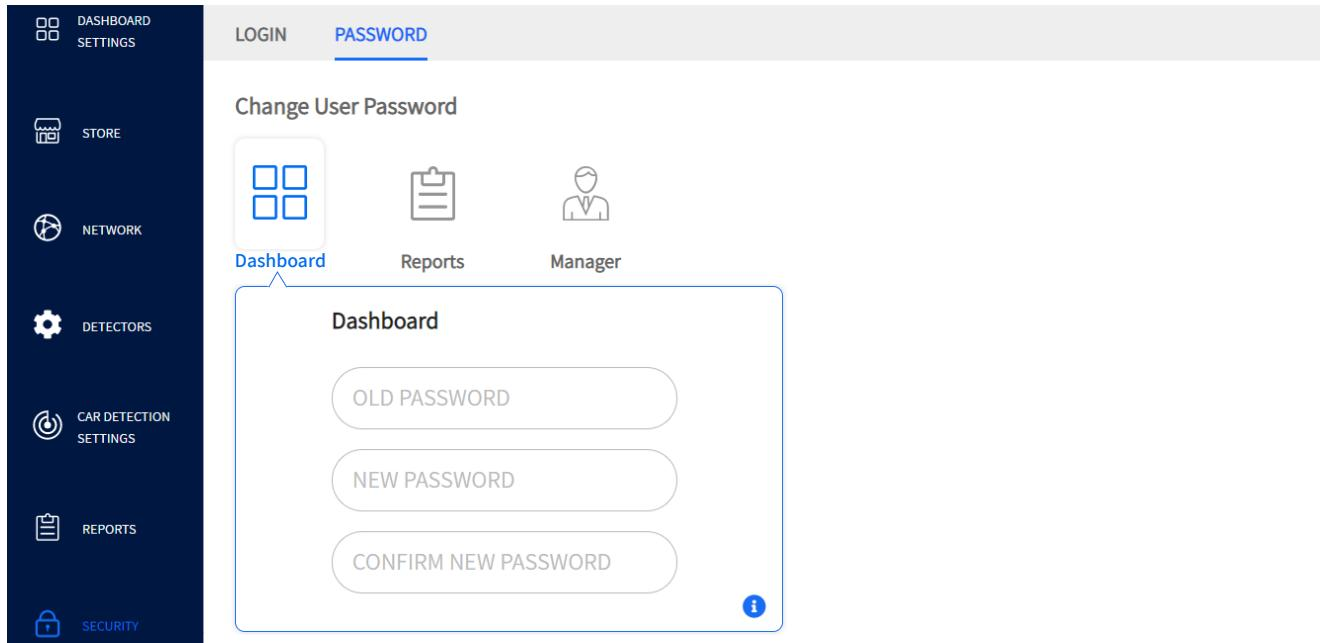

Fig. 9.4
**Why is it needed?** Passwords are a security measure to ensure that only authorized personnel can access your system. It is also used to restrict access to certain features. In Fig. 9.4, the Dashboard password screen is active.